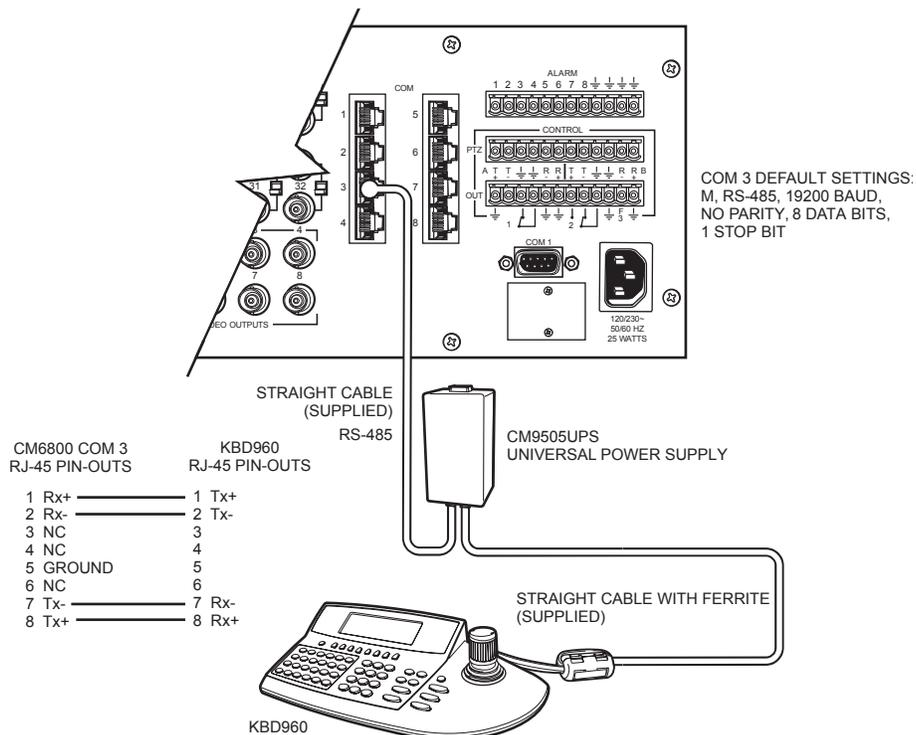

Figure 2. Connecting to the CM6800
2. Connect the RJ-45 straight cable with ferrite from COM 1 of the keyboard to the CM9505UPS power supply. The ferrite end of the cable must go into the keyboard. See Figure 2.